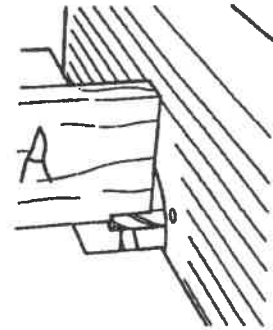

Fig. C-3
6. Turn on the Dust Collector and router. Make the first cut on workpiece "A", then set it aside. See Fig. C-3.